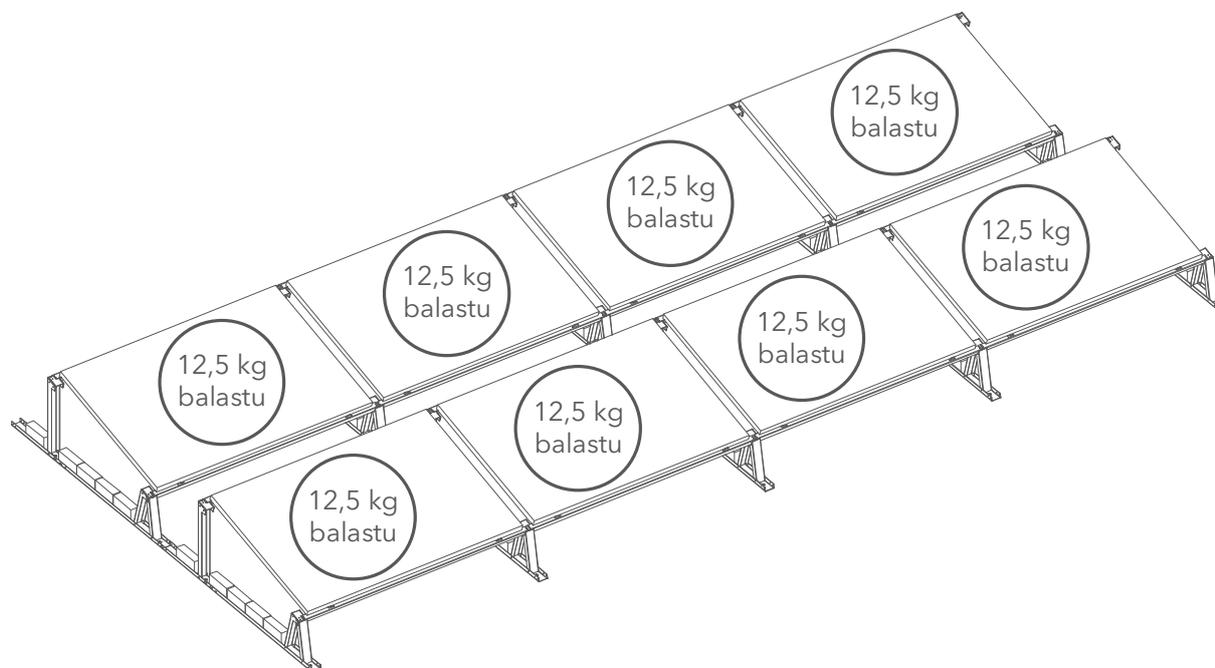

Fig. 7. distribution of the ballast on two rows of photovoltaic panels.
- 6** If there are two rows of photovoltaic panels, the weight of the ballast is per panel is 12.5 kg (Fig. 7).